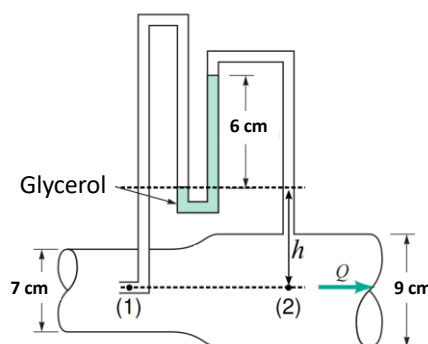

Figure 2. Question 3.
3. Water is flowing in the pipe according to the Fig. 2. What is the volume flow rate Q when the effect of viscosity is not taken into account. Glycerol has $SG = 1.26$. (6p)